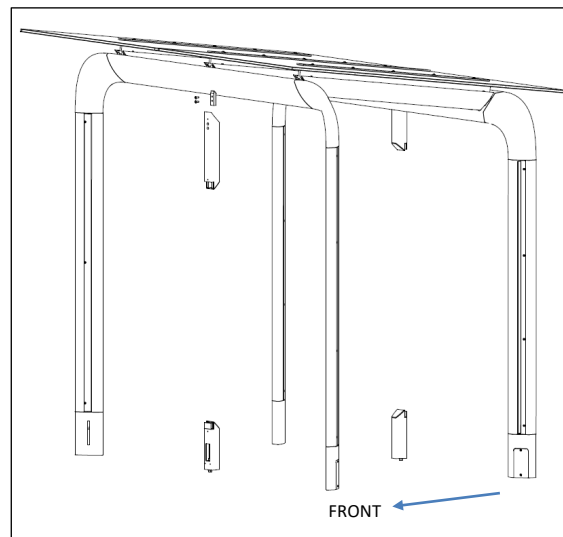

Fig. H3 – glass post orientation
2. Attach upper posts to horizontal beams and check for level – note orientation, see Figs. H3 and H4. Securely tighten. If unit is specified with back glass and left or right front glass, the longer post is installed on the front.